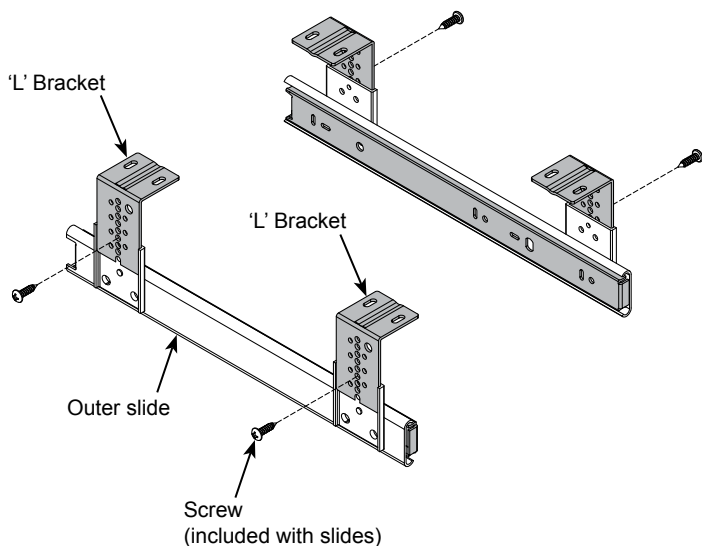

Figure 1A
1. Attach the 'L' brackets to each outer slide with screws (included with slides). The brackets need to be attached "inboard" (facing each other). **Figure 1A.** Multiple height positions / mounting holes are available with the brackets-use the same hole position on all 4 brackets.